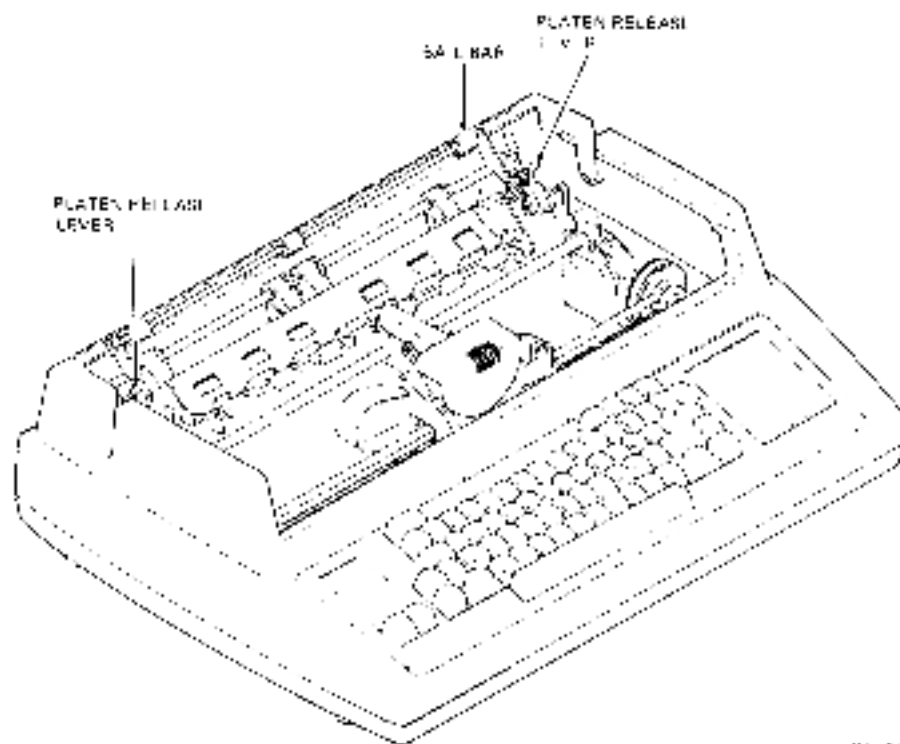

Figure 3-2 Platen Removal
5. Lift the bail bar to gain access to the platen. Remove the platen by pressing the two platen release levers at the same time. Lift the platen straight up (Figure 3-2). Lower the bail bar to its original position.